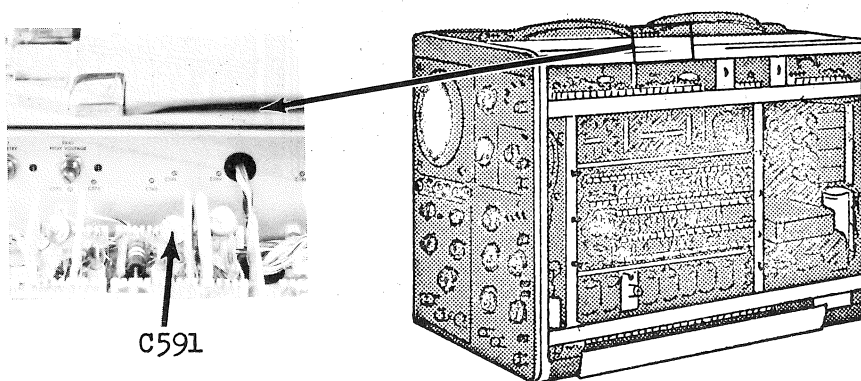
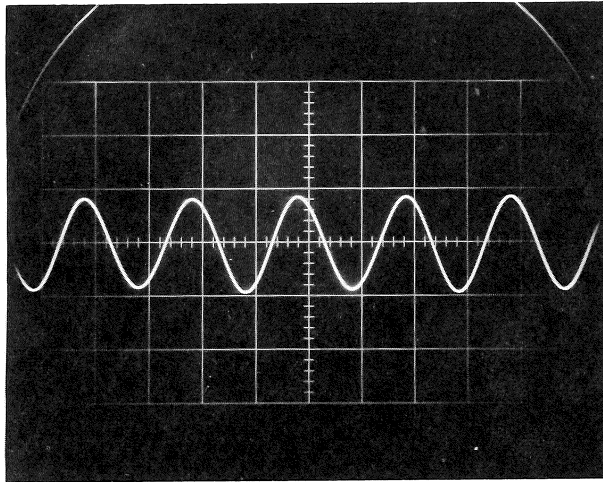

Figure 101
Figure 102
6. Adjust C591 (see Fig. 101) for best linearity and max expansion. (See Fig. 102)